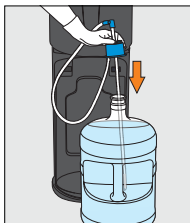

Figure 5
- (5) Un-package and assemble the Bottle Adaptor assembly (located in the bottle storage area)
- (6) Place the bottle adaptor probe into the bottle (Figure 5)